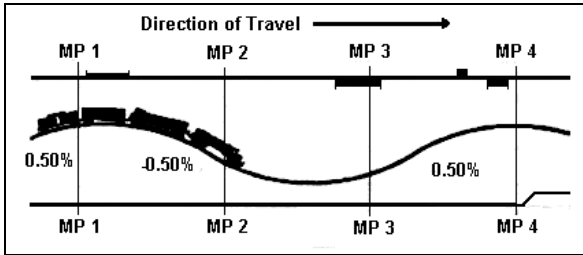

**Figure 5-14. Direction of Train Travel in a Throttle Reduction Method**
c. **Throttle Reduction Method (Preferred Method for Light, Heavy, and Mountain Ascending Grades) (see Figure 5-14).**